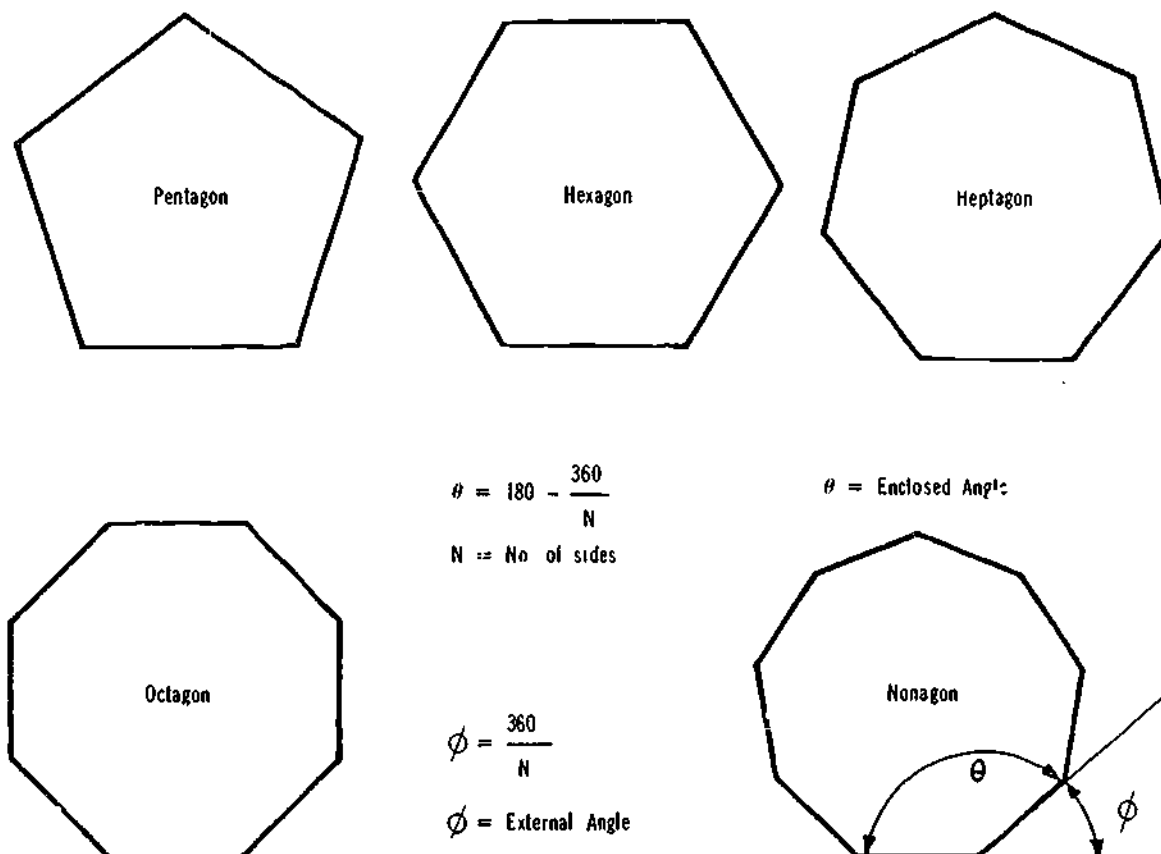

Figure 5-3. Regular Polygons
Regular Polygons (Figure 5-3) are differentiated as: (1) Pentagon (2) Hexagon (3) Heptagon (4) Octagon (5) Nonagon